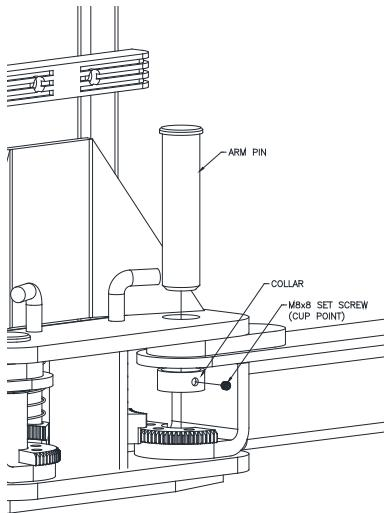

Fig 10 –Arm Pin Keeper Install
51) Slide the arm pin into the carriage, arm, and collar. **Fig 10.**